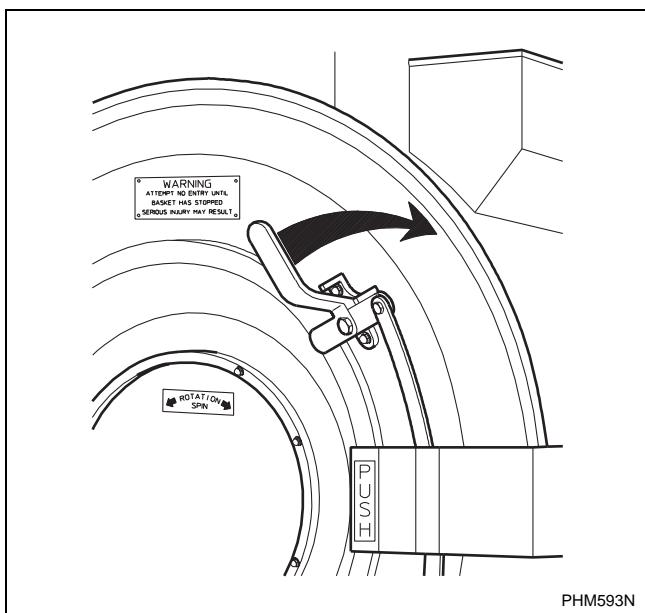

Figure 29
- Use right hand to turn door handle clockwise and swing the door left to open. Refer to *Figure 29*.